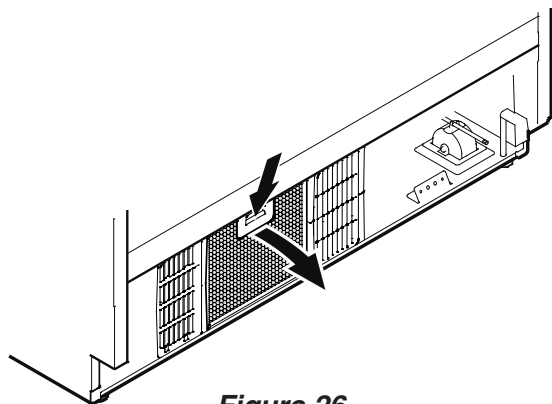

Figure 26
- Push down the button of the air filter, tilt to the front and remove - **Figure 26**.